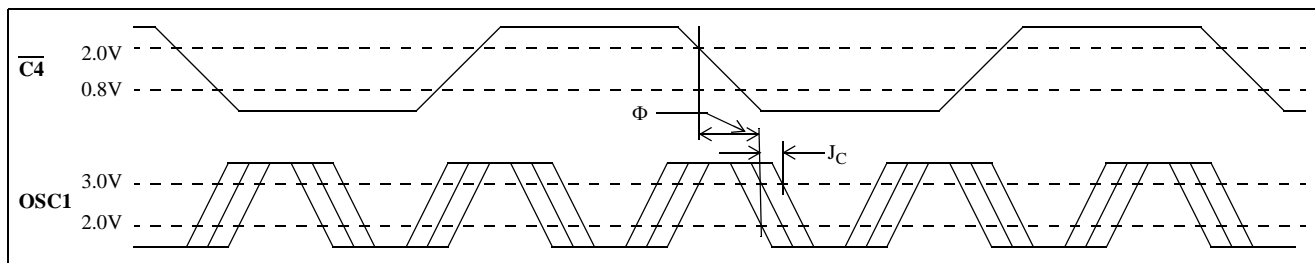

Figure 17 - Frequency Locking for the $\overline{C4}$ and OSC1 Clocks in MAS/DN Mode
2) When operating in MAS/DN Mode, the C4 and Oscillator clocks must be externally frequency-locked (i.e., $F_C = 2.5 \times f_{C4}$). The relative phase between these two clocks (Φ in Fig. 17) is not critical and may vary from 0 ns to t_{C4P} . However, the relative jitter must be less than J_C (see Figure 17).